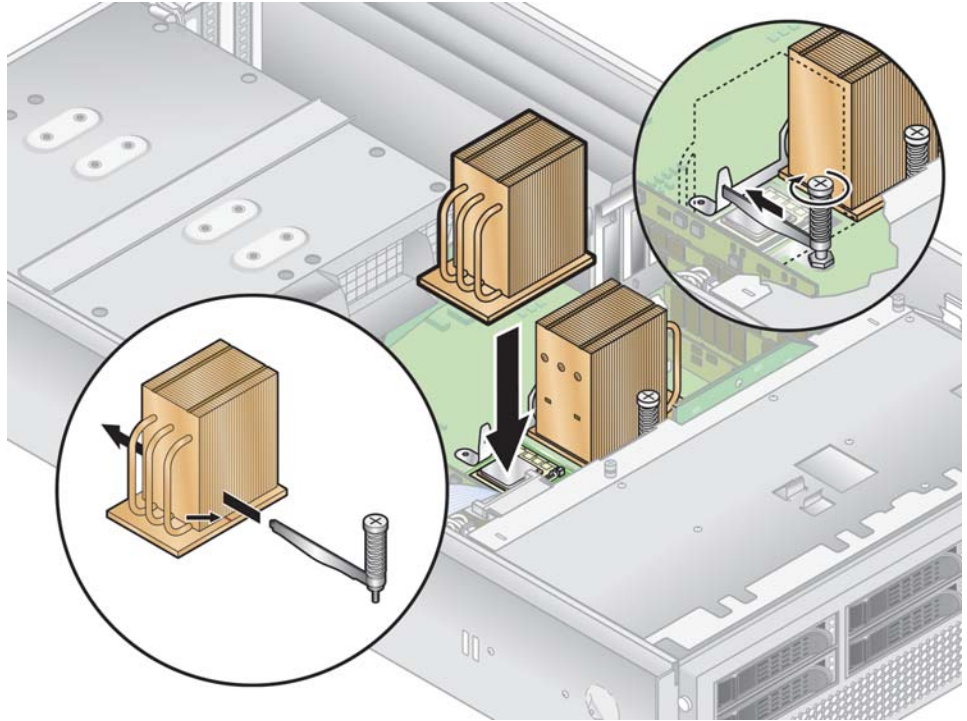

FIGURE 5-30 Replacing the Heatsink Hold-Down Assembly Crossbar
11. After the heatsink is correctly aligned, reinsert the hold-down assembly crossbar through the heatsink fins (see FIGURE 5-30):